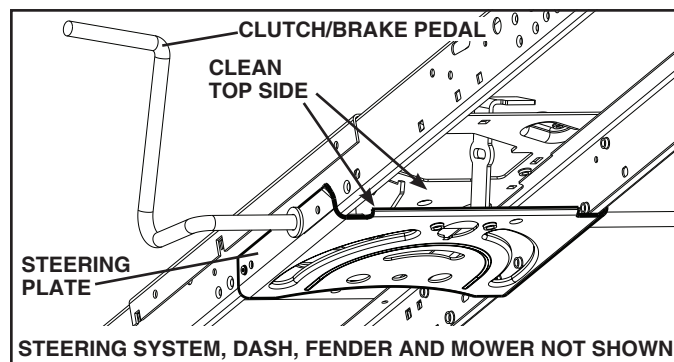

Fig. 23
- Clean debris from steering plate. Debris can restrict clutch/brake pedal shaft movement, causing belt slip and loss of drive. See Fig. 23.